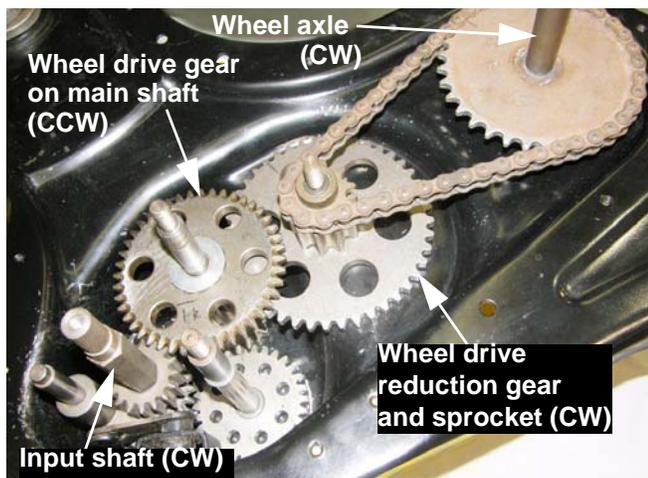

Figure 5.6
4. The wheel drive transfer gear transmits power from the lower half of the paired gears on the main shaft to the wheel drive reduction gear. The wheel reduction drive gear will turn **C**lock **W**ise. See Figure 5.6.